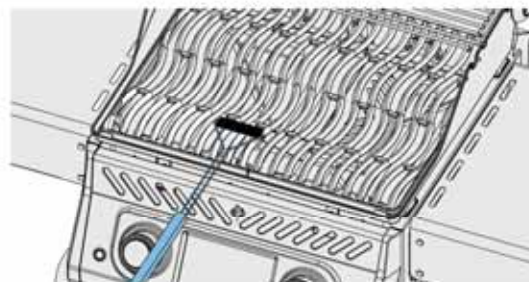

Fig. 4
- Stainless steel cooking grids can be cleaned by preheating the grill and using a wire brush to remove residue. (Fig. 4)